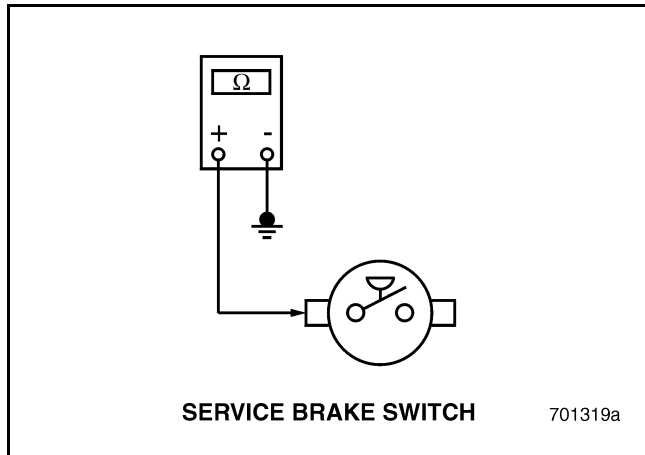

Figure 689
3. Check for continuity between either terminal of the service brake switch and a good ground (see Figure 689). Engage and disengage the service brake.